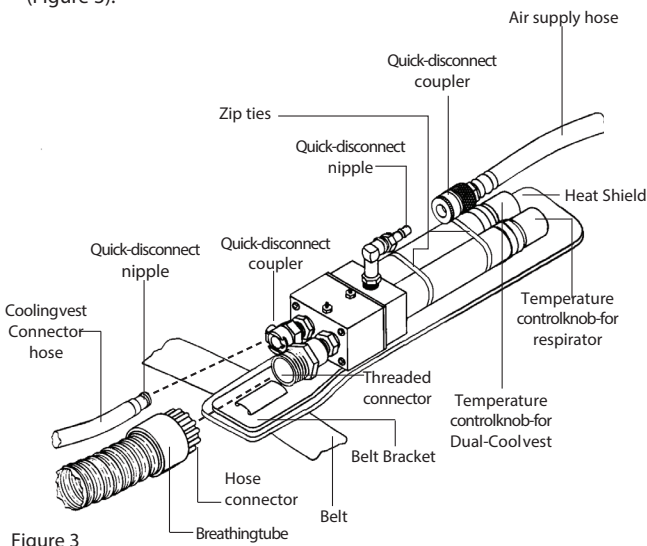

Figure 3
2. Use plastic zip ties (2 included) to secure the climate control to the heat shield. (Figure 3)
1. Screw the hose connector that is on the end of the breathing tube to threaded connector on Dual-Cool. Lace the belt through the slots in the belt bracket (Figure 3).
4. Snap the quick-disconnect nipple found on the end of the cooling vest connector hose into the quick-disconnect coupler on the Dual-Cool (Figure 3).
6. With the approved Bullard air supply hose connected to the breathing air source, and with air flowing into the hose, connect the quick-disconnect coupler on the air supply hose to the quick-disconnect nipple on the Dual-Cool (Figure 3).
1. To obtain cooler air, turn the air temperature control knobs counter-clockwise (Figure 3). Maximum cooling is obtained when knobs are open completely and when there is maximum airflow out of the Dual-Cool tube's exhaust ports. To obtain air that is closer to ambient temperature, turn air temperature control knobs clockwise. If knobs are closed completely, your respirator will receive air that is essentially at ambient temperature.
There are separate controls to adjust the temperature of the air that is distributed to the vest and the breathing zone. The one knob controls the air temperature to the respirator; the other knob controls the air temperature to the cooling vest (Figure 3).